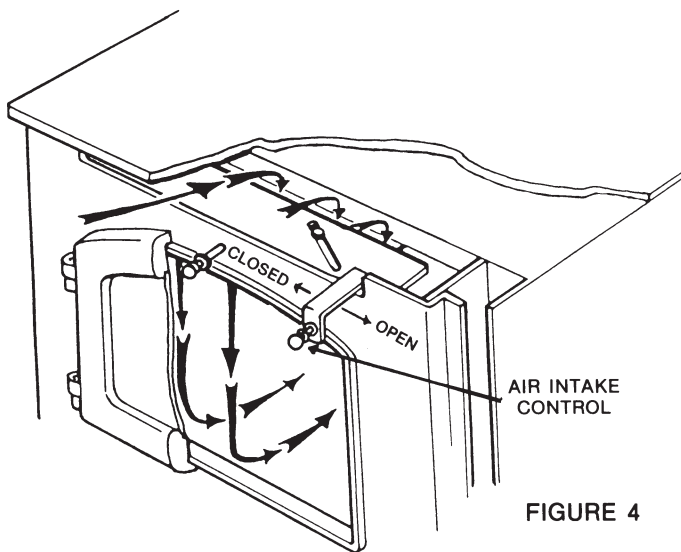

FIGURE 4
NOTE: When the air intake control is fully opened, air sweeps down across the glass creating a wash of air in front of the glass and blocks smoke from clouding it. As the air intake is closed, less air washes the glass and the glass will become smokey. (See figure 4)
1. Open the primary air intake control by sliding the knob fully to the right. (See figure 4). Open the damper in the smokepipe if you have installed one.
1. Pull open the bypass damper located directly over the middle of the door. On 1100 and 1200 models open the air intake control, as previously outlined, by sliding knob fully to the right (see figure 4). Open the smoke pipe damper if you have installed one.